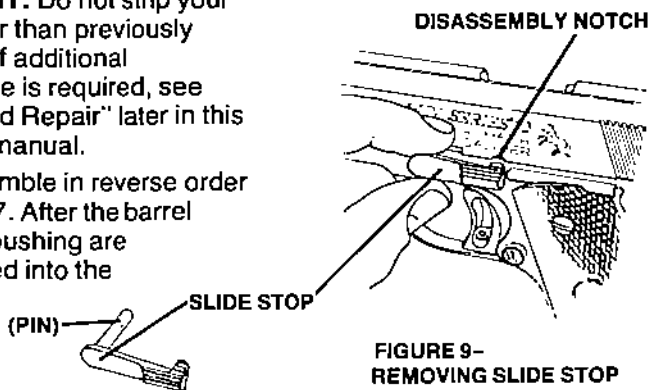

**FIGURE 8-
3. Push slide back about one quarter inch, press down on recoil spring plug (located just below muzzle) and at same time rotate barrel bushing clockwise about $\frac{1}{4}$ turn, using barrel bushing wrench if necessary; this will free plug and recoil spring. Keep pressure on plug to prevent it being ejected by the spring, then allow plug and spring to gradually extend out of the slide. (See Figure 8)